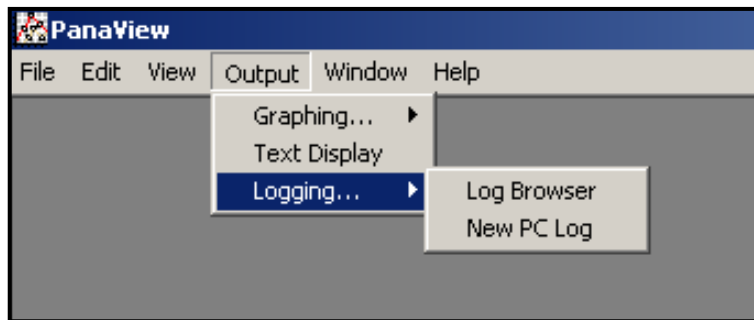
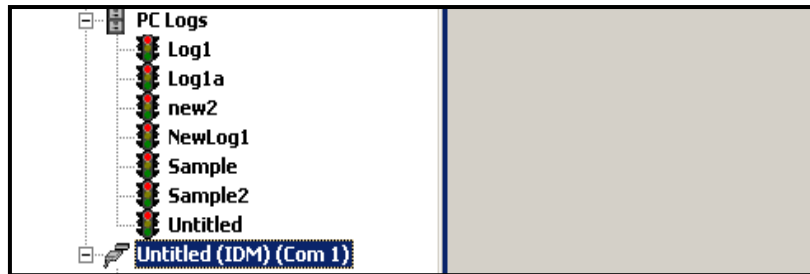
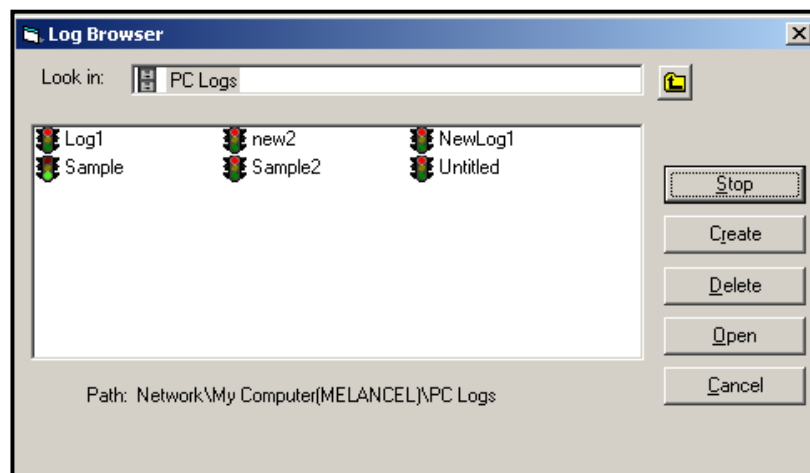

Figure 13: Selections in the Logging Option
Figure 22: Expanded PC Logs Option
Figure 23: Selecting a Log File from the Log Browser
1. Open the *Output* menu (see *Figure 13* below), and click on the *Logging* option.
- From the *New Meter Browser* in PanaView, expand the network tree and click on the *PC Logs* option. If you have created one or more logs, the tree will appear similar to Figure 22 below. Double-click on the log name to open the log, or
- Pull down the *Output* menu (see Figure 13 on page 46), and click on the *Log Browser* option. Advance to the *PC Logs* dialog box as described in previous sections. A screen similar to that shown in Figure 23 appears.
Notice that each of the log files in Figure 22 and Figure 23 has a traffic light icon next to its name. These icons indicate the current status of the log as follows: